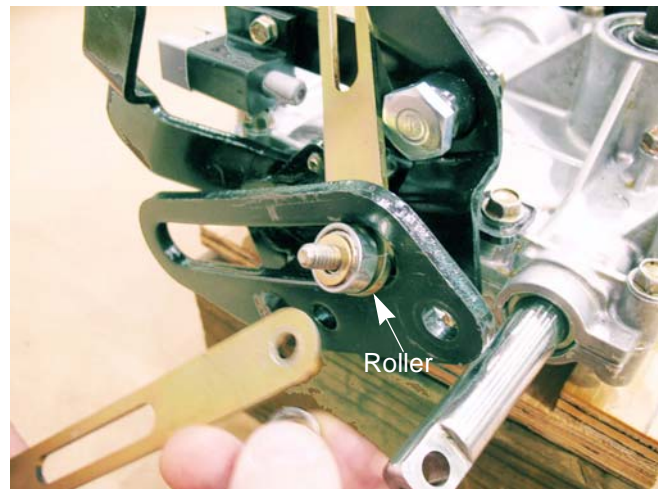

Figure 6.30
- 2d. Remove the bolt, washers and the roller with the other connector plate. See Figure 6.30.